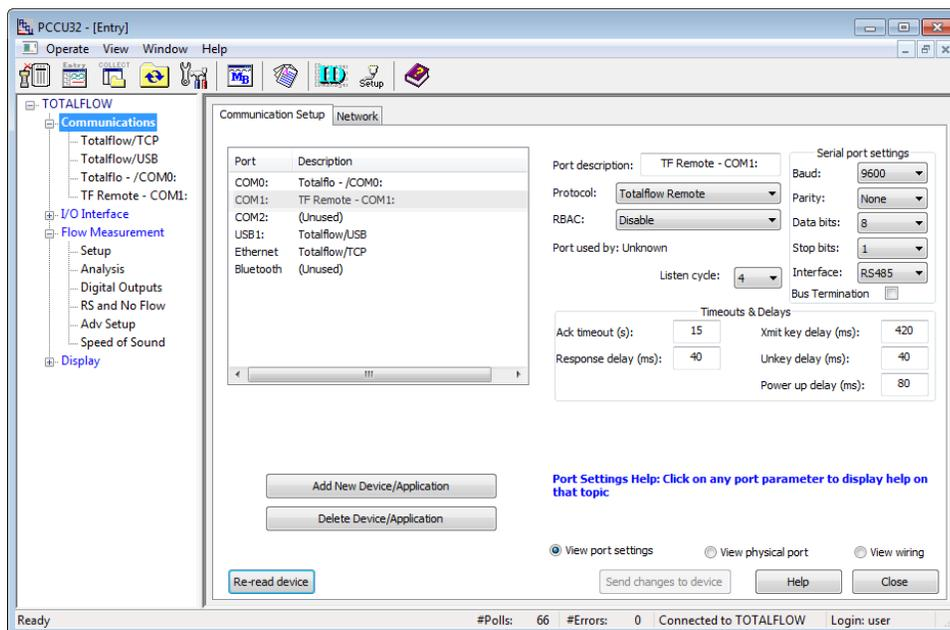

Figure 35: Communications setup screen
1. On the navigation tree, click **Communications** (Figure 35).